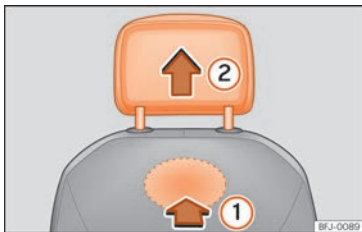

Fig. 109 Front headrest: removal.
- To unlock it, look for the rabbit on the bottom of the backrest and press in the direction of the arrow »» » **Fig. 109** ①.
- Remove the headrest in the direction of the arrow ②.